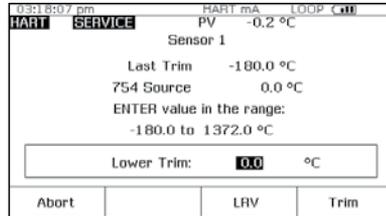

Figure 14.
- If the As Found test failed (i.e., there were highlighted errors in the error summary table), adjustment is necessary. Press the **Adjust** softkey. Select **Sensor Trim** and press **ENTER**. Select **Perform user trim – both** and press **ENTER**. The 754 screen should look like Figure 14.